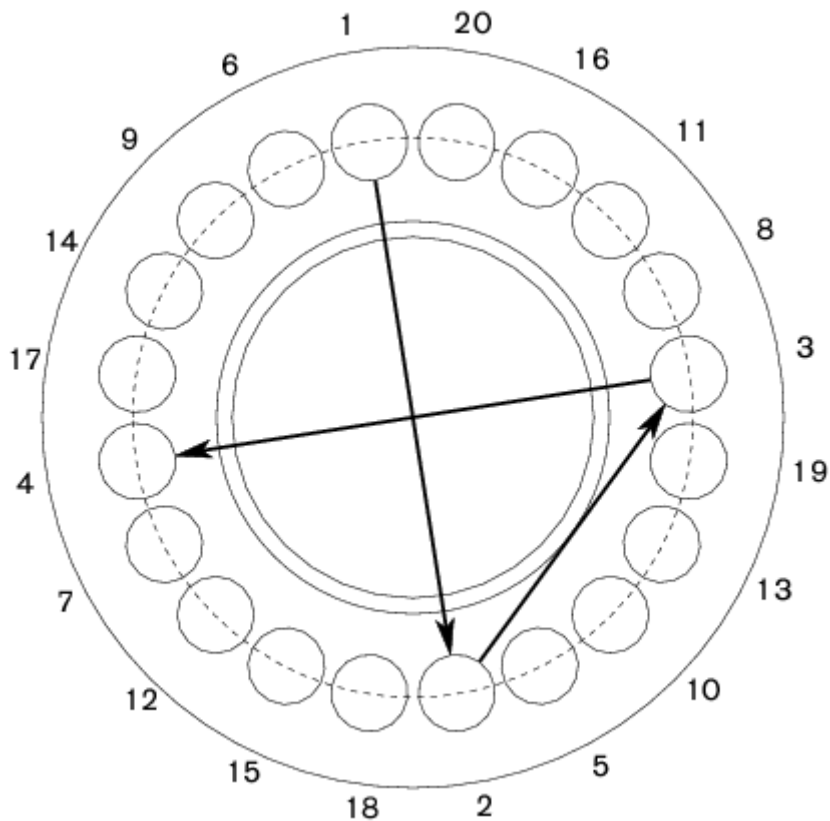

Figure 3-3. Flange Bolting Sequence
5. Tighten all nuts uniformly in a diametrically staggered pattern as shown in Figure 3-3. See the table titled "API Bolting Data" on page 3-5 for proper torque specifications.